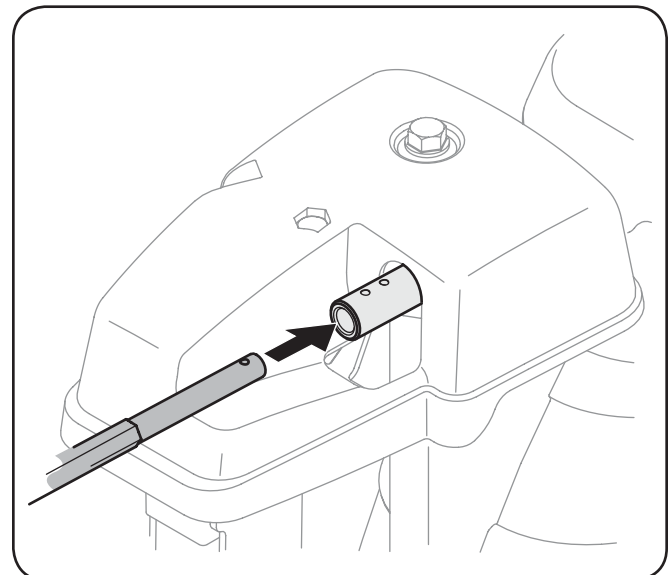

Figure 3-7
2. Insert chute control rod into chute control head. Push rod as far into chute control head as possible, keeping the holes in the rod pointing upward. See Fig. 3-7.